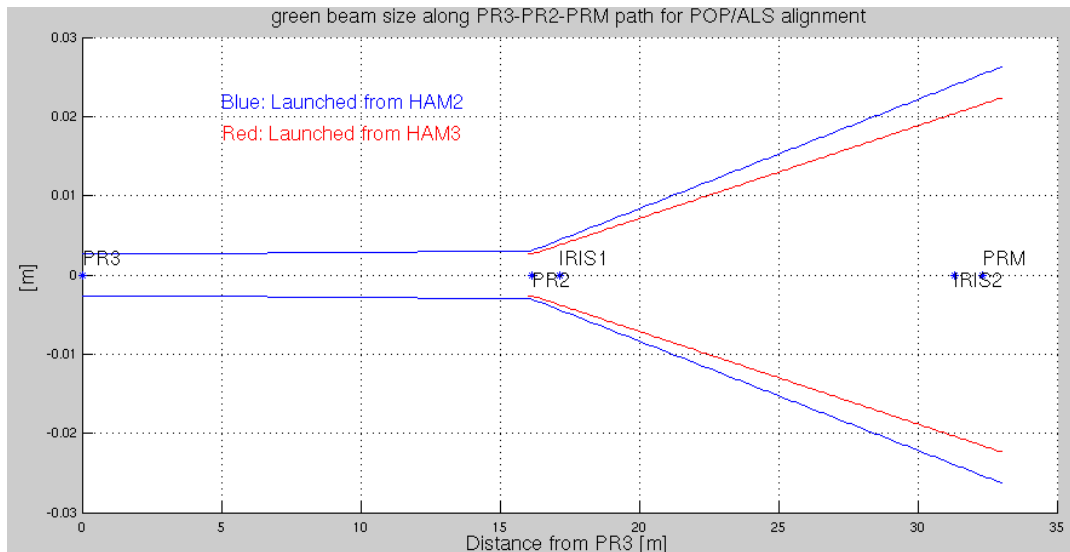

Figure 4: Green beam size along PR3-PR2-PRM path.
- Move the green laser and the steering mirror to HAM3 as per Figure 3 and inject the green beam into PR2. You could inject from PR3 position but launching from HAM3 will make the beam size of the PR2 reflection 20% smaller (Figure 4).